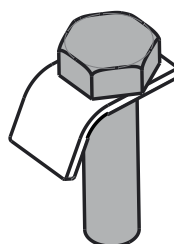

Fig. 3.2.1.b
7. Slide on an L-shaped washer onto each bolt according to fig 3.2.1.b.